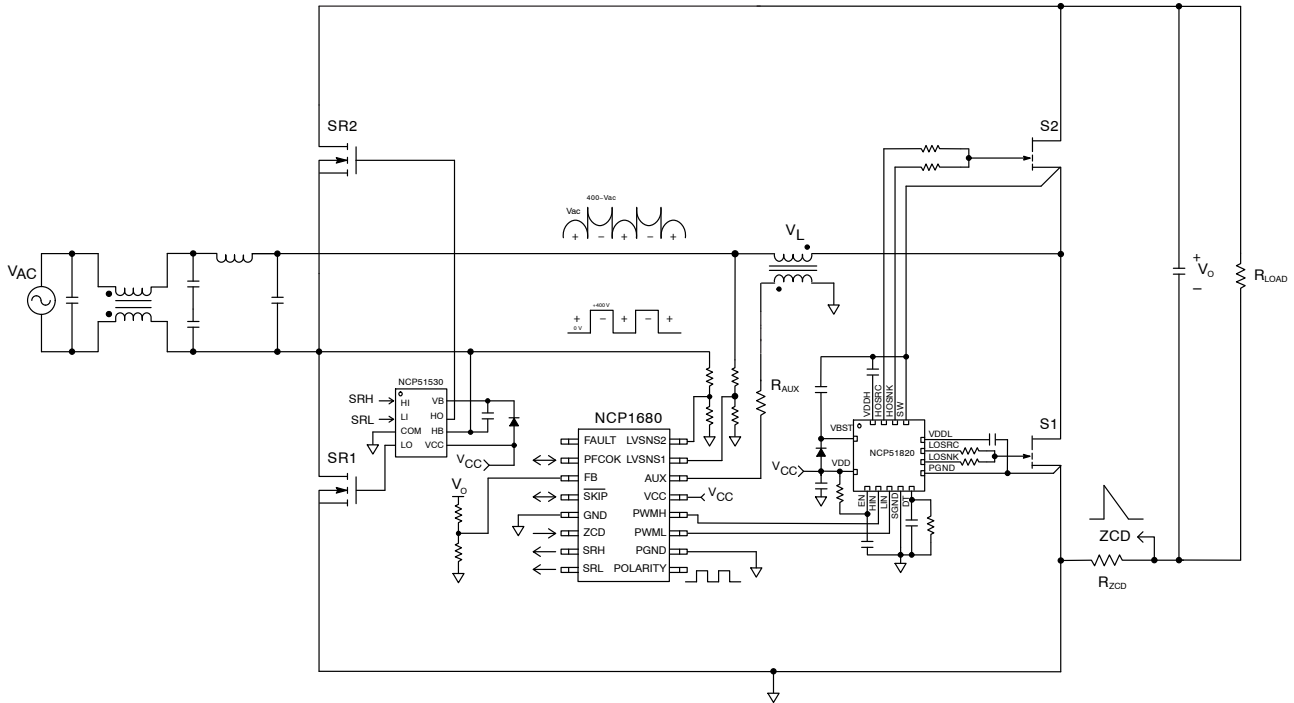

Figure 2. Typical Application Schematic of a CrM Totem Pole PFC Utilizing NCP1680
As shown in Figure 2, the slow leg switches (SR1 & SR2) are high voltage silicon-based FETs, also known as super junction (SJ) FETs, and the fast leg switches (S1 & S2) are Enhancement-mode Gallium Nitride (eGaN) devices. Since NCP1680 employs a CrM control architecture where the inductor current resets back to zero before the next switching cycle, low reverse recovery charge (Qrr) SJ FETs can also be utilized for the fast leg albeit with slightly inferior performance, but better cost structure. As a controller the NCP1680 is agnostic to the fast leg switch technology. Wide-Bandgap (WBG) devices such as Silicon Carbide (SiC) or eGaN are recommended for optimal performance. SiC is a good choice for lower frequency applications while eGaN is an excellent choice for both low frequency and high frequency applications.